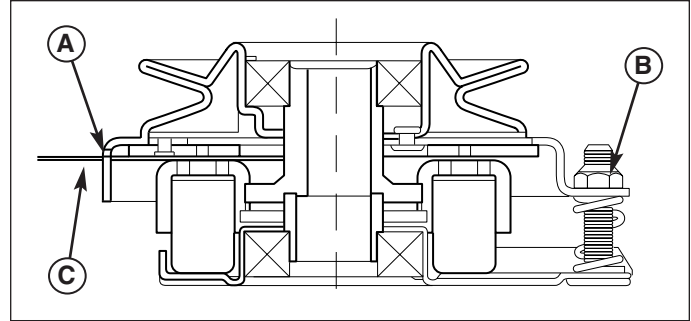

Figure 28. Adjust PTO Clutch
3. Insert a .016"-.018" (0,40-0,45mm) feeler gauge (C) through each window, positioning the gauge between the rotor face and the armature face as shown in Figure 28.